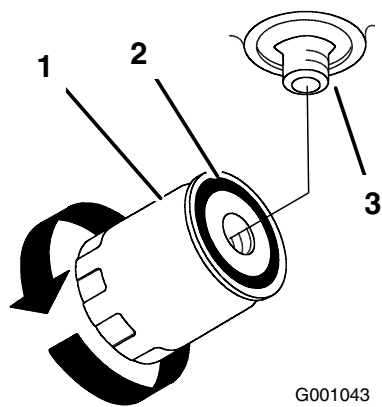

Figure 56
5. Remove the old filter and wipe the filter adapter gasket surface clean (Figure 56).
9. When the hydraulic filter is full, turn the oil filter clockwise until the rubber gasket contacts the filter adapter, then tighten the filter an additional 1/2 turn (Figure 56).